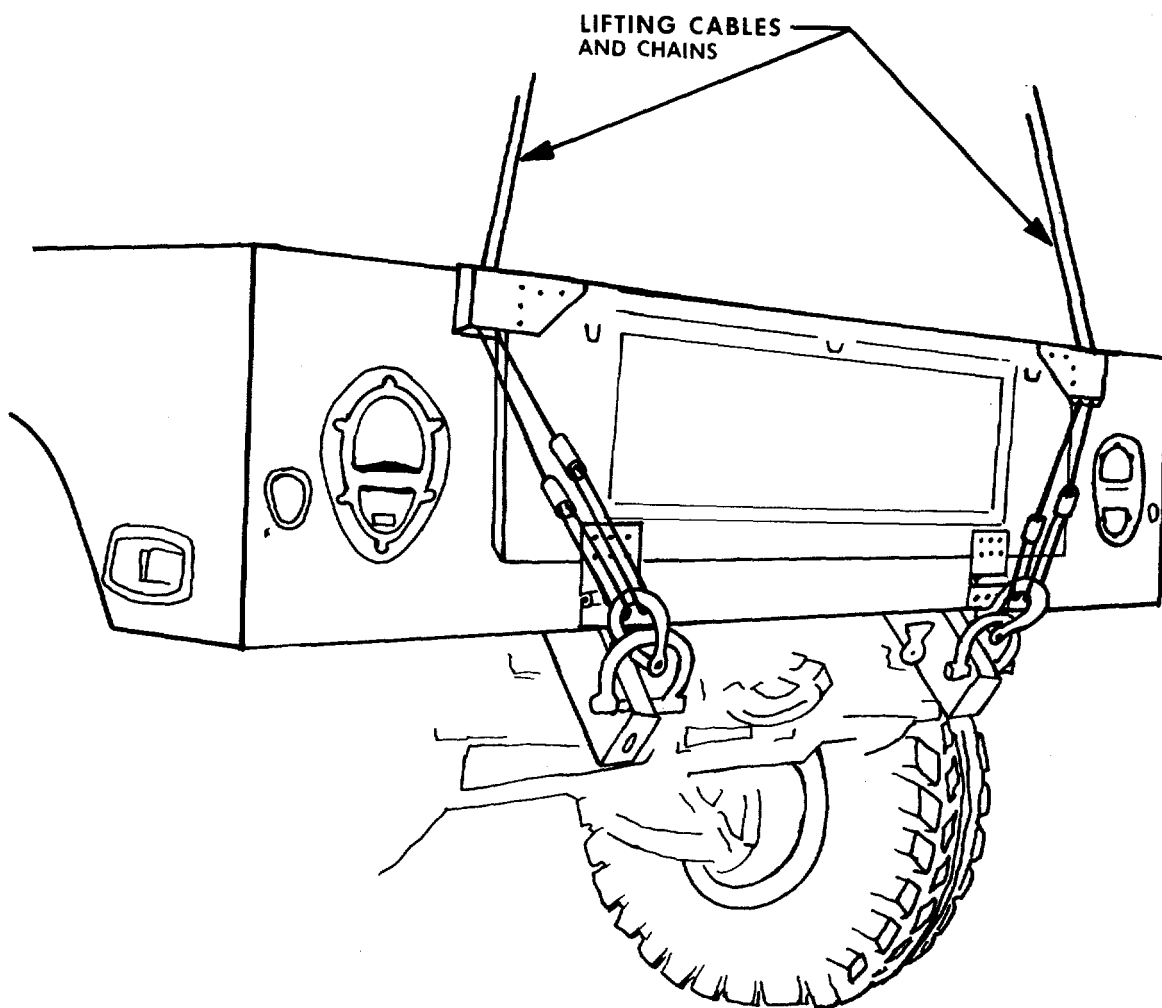

Figure 4-8. Lifting cables and chains that pass through eyelets on tailgate of M966 and M998.
(1) Connect the rear sling legs to the same 10,000-pound apex fitting used for the front sling legs.
(2) For the M998 and M966 vehicles, thread each chain end through the eyelet opening in the upper corners of the tailgate (fig. 4-8). Loop each chain end through the lift shackles on the rear bumper, and thread the chain back through the eyelet openings in the tailgate. Secure each chain by link 3 in the grabhook. For the M1037 shelter carrier, move the lifting shackle to outside of the bumper and route each chain around the shelter and loop the chain through the lift shackles on the rear bumper. Secure each chain by link 30 in the grabhook.
(3) Secure all excess chain with 2-inch-wide tape.